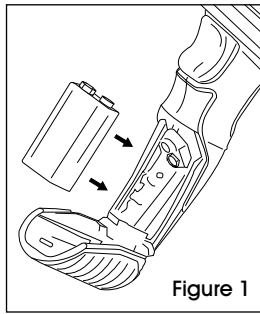

Figure 1
- Connect one 9 V battery to the connector block. Fit the battery into the compartment. (See Figure 1)